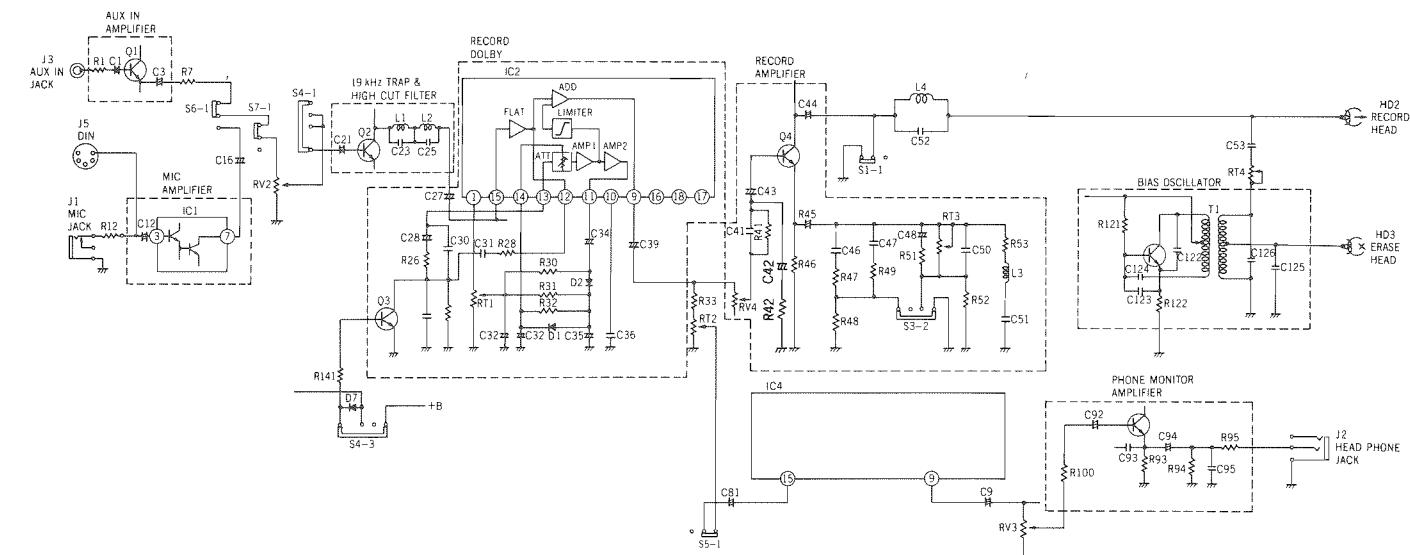

Figure 4
- 2. Record Circuit of SCT-30 (Refer to Figure 4.)**